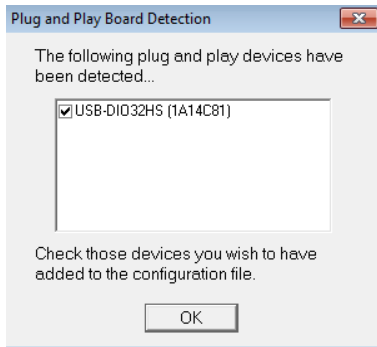

Fig 4-4
- Figure 4-4 should appear. The number of items and their serial number(s) will be different depending on your equipment.